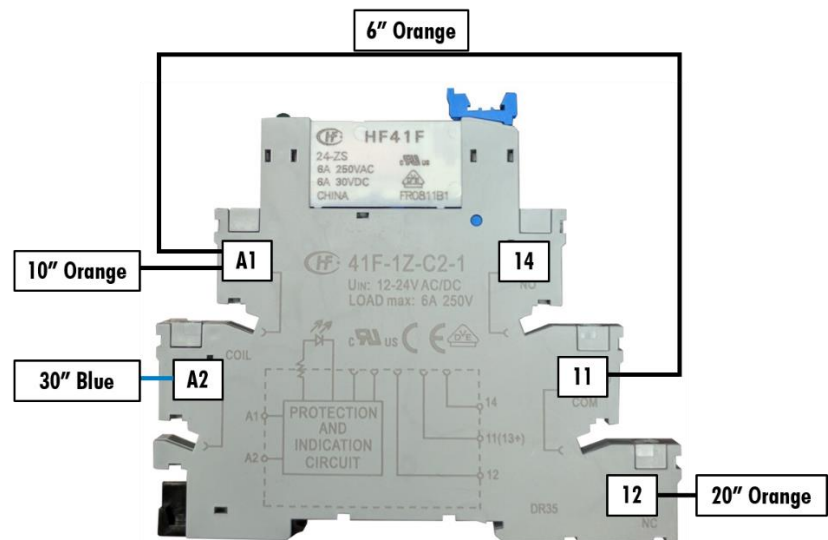

Fig. 3
- Route the 30" blue wire connected to the relay module (A2) (Fig. 3) and route it down the hole in the baseplate to the chassis.